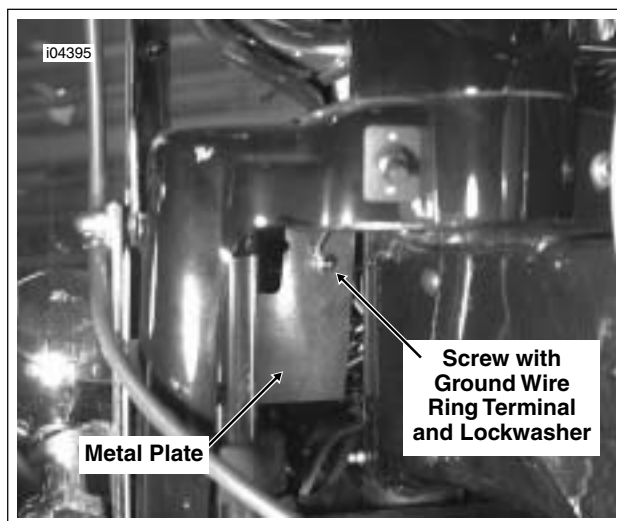

Figure 8-12. Install Ground Wire Ring Terminal
- f. See Figure 8-12. While holding the power supply, remove the locknut. Remove screw and lockwasher allowing power supply to seat inside the nacelle. Route black (ground) wire to the rear of the metal plate. Install ring terminal and lockwasher on screw. Slide the screw through the metal plate and power supply and install locknut. Tighten locknut securely.